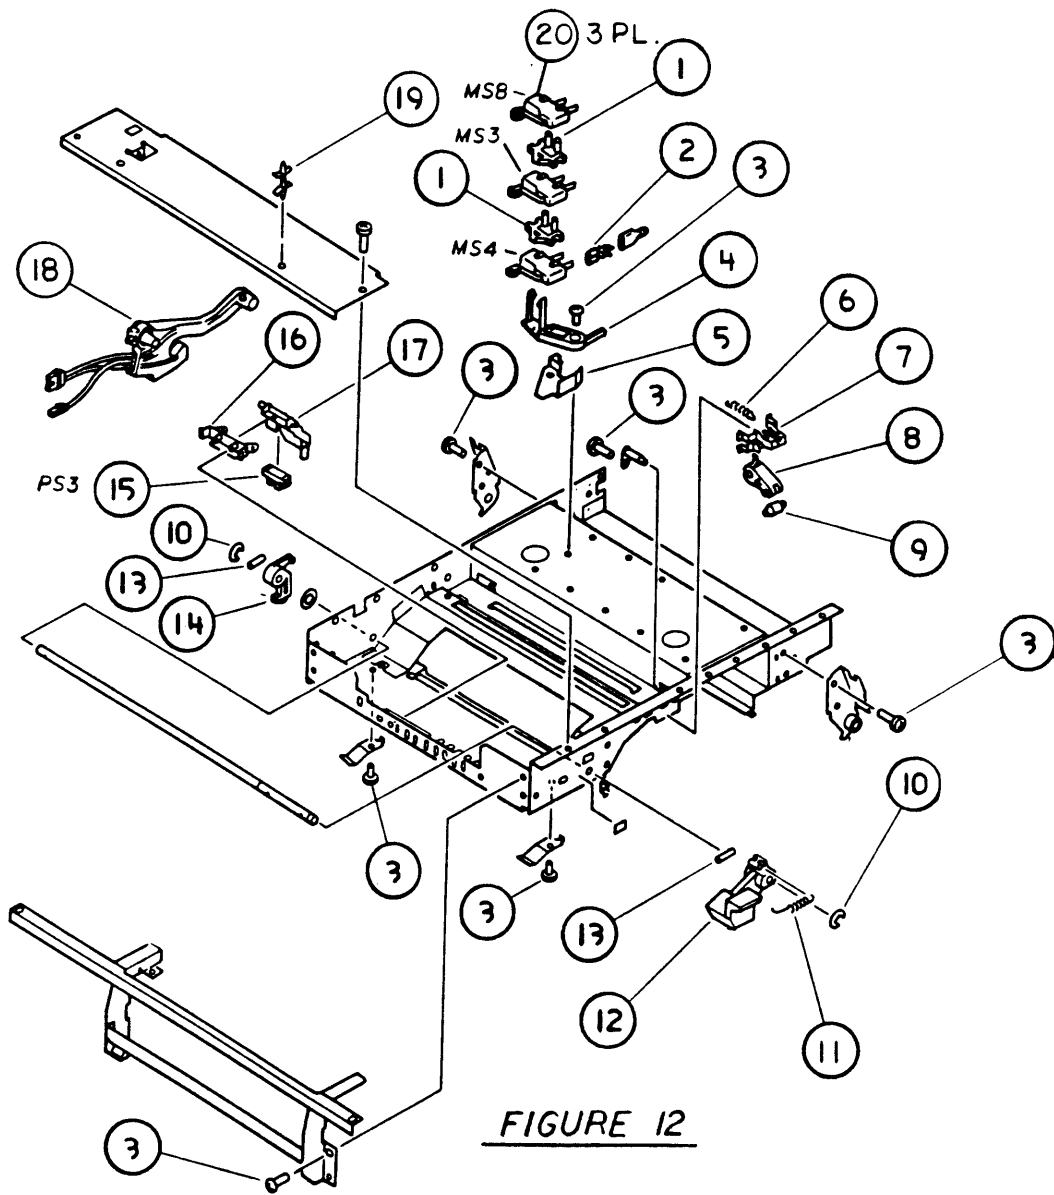

FIGURE 12
□ **LASERWRITER – UPPER MAIN BODY (2 of 2) (Figure 12)**